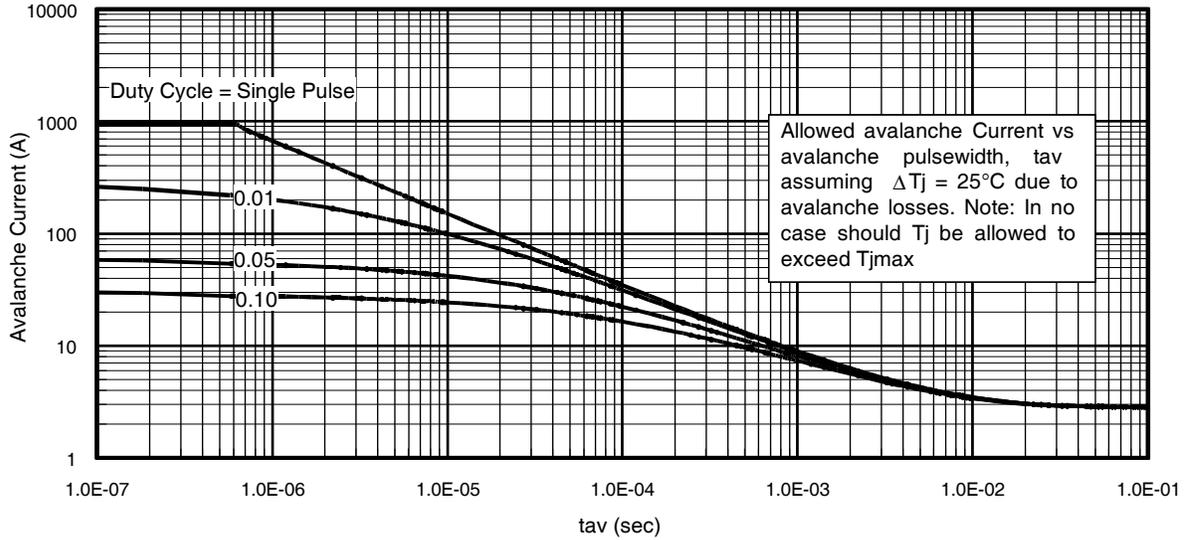

Fig 15. Typical Avalanche Current Vs.Pulsewidth
**Notes on Repetitive Avalanche Curves , Figures 15, 16:**
7.  $\Delta T$  = Allowable rise in junction temperature, not to exceed  $T_{jmax}$  (assumed as 25°C in Figure 15, 16).